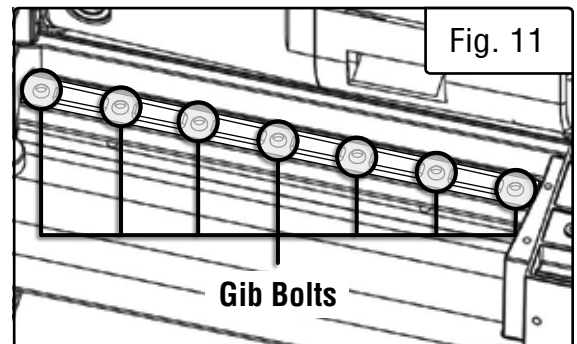

Fig. 11
4. Use the star wrench to loosen the 7 mounting bolts about 4 - 5 turns (Fig. 11). Do not remove the bolts from the gib.